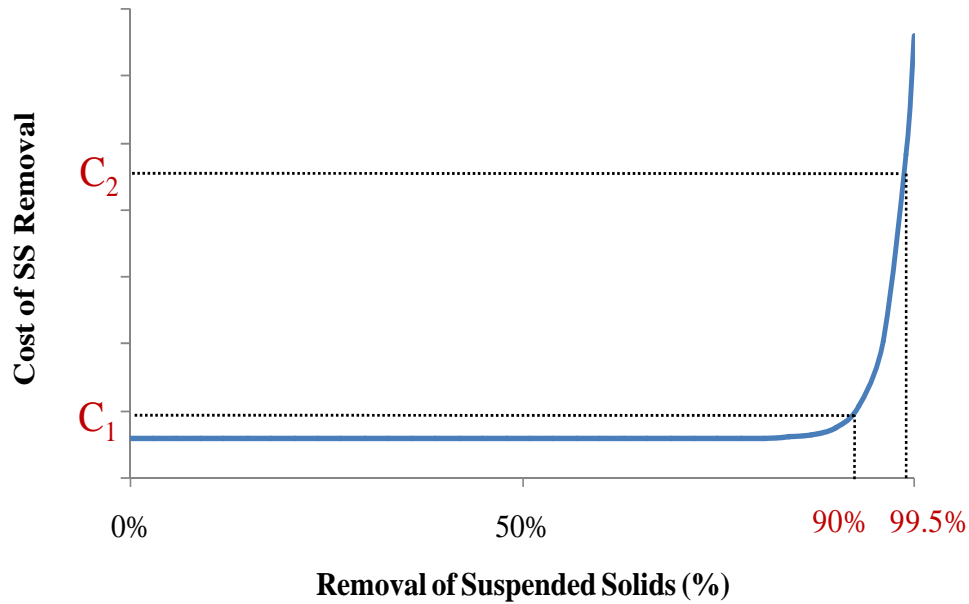

Figure 1 – Cost of Suspended Solids Removal (notional)
Typically the pretreatment step removes suspended matter leaving the dissolved matter to the main desalting step (either reverse osmosis (RO) membrane or thermal). However, a very high level of suspended solid removal is required for efficient operation of the desalting step. Even with removal of suspended solids, dissolved organics can still lead to significant fouling on an RO stage desalting step. Removing much suspended matter is simple and cheap but getting to the levels required by reverse osmosis membranes is complex and costly. Figure 1 below shows notionally the relative costs for removing *much* suspended matter and *virtually all* suspended matter.
Smaller particles are much more costly to remove and they impart more problems on the downstream stages. In Figure 1 the notional cost curve shows that removal of a lot of suspended solids from a source water is simple and inexpensive, shown as 90% removal and C_1 as the cost. Conversely most desalting steps require far more removal to operate. This is shown as 99.5% and C_2 as the cost, which is much higher than the cost (C_1) to remove 90% of the suspended matter. The LFNano™ from EconoPure™ can operate with far more suspended matter in the water than current desalting steps and in many cases will not require any process ahead of it.